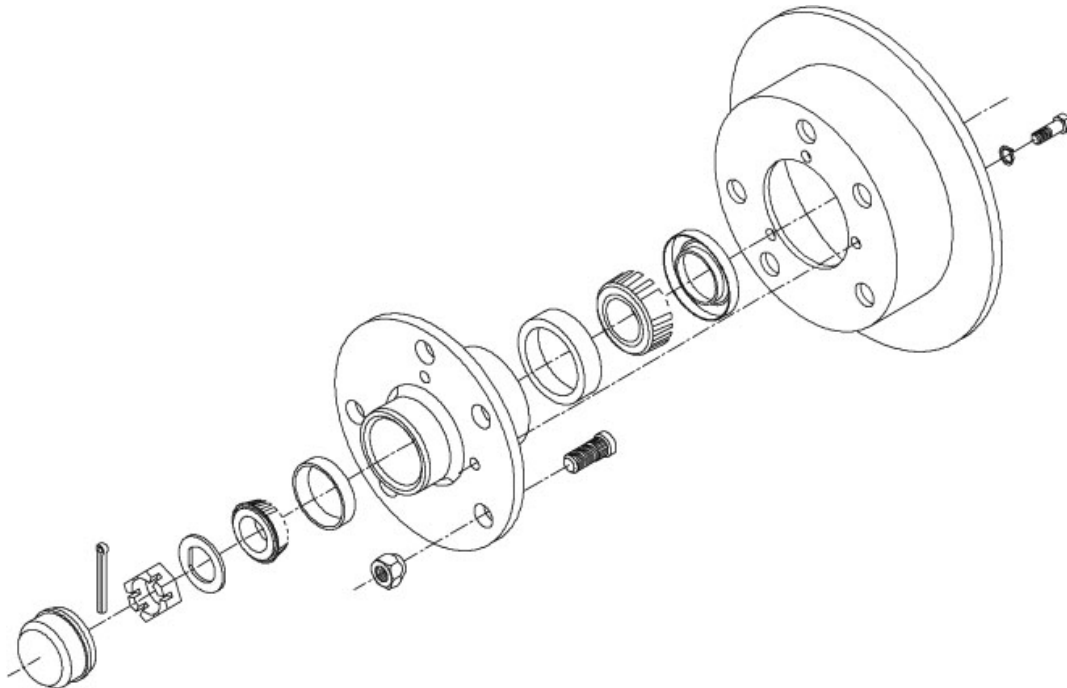

Figure 1 Hub Wheel Assembly – Exploded View
- b. Remove the parking brake cable from the draw link on the hub assembly, if fitted. If the wheel hubs are to be removed, refer to Paragraph 18 and Figure 1.
- 18. Removal.** Remove the wheel hubs as follows (Figure 1):